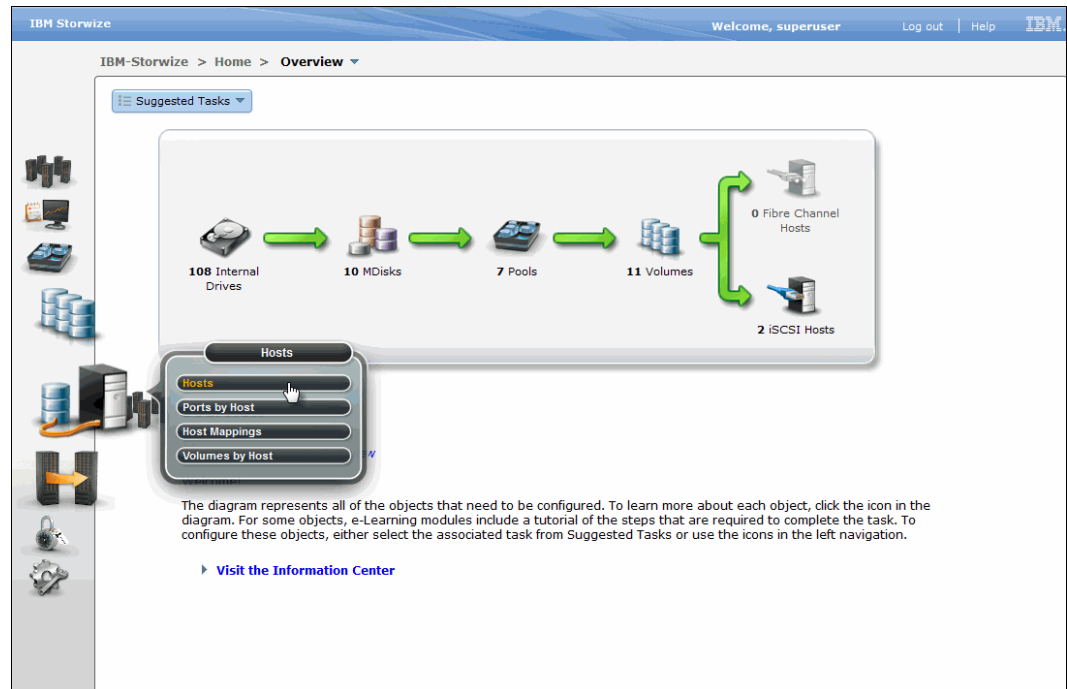

Figure 5-24 All Host window
1. Open the All Hosts window, as shown in Figure 5-24.